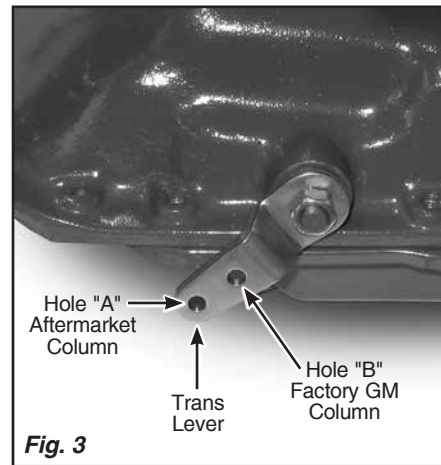

Fig. 3
Step 2: Install the trans lever onto the transmission using the factory nut. The trans lever should point down and towards the front of the vehicle at approximately the 7:00 position. Fig. 3